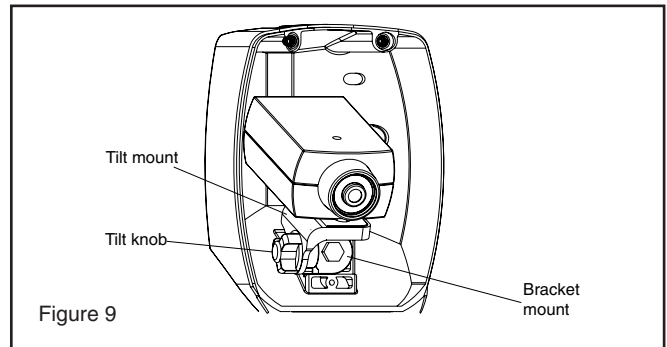

Figure 9
- Place the camera and tilt mount on the bracket mount and replace the tilt knob, but do not fully tighten (Figure 9). Adjust the camera to the desired viewing angle, but be sure the housing front and window are not touching the camera. A right angle BNC connector is included to allow extra space if needed. Tighten all connections.
- Close the housing front and tighten the (2) Security screws.